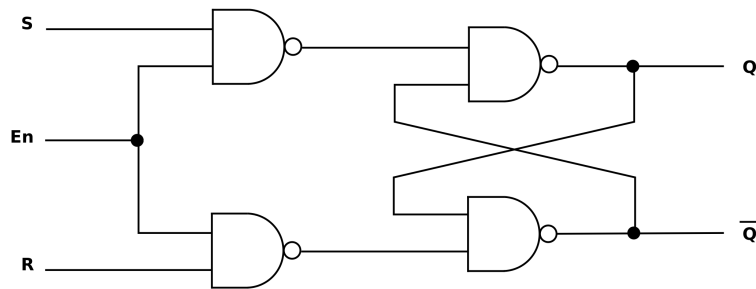

Figure 2: SR-latch Gate-level Schematic
Memory components come in many flavors but we will only study two types in this lab, namely latches and flip-flops. Latches can be combined to create flip-flops so we will begin by discussing latches. The simplest latch is the Set-Reset (SR) latch. The function table and gate-level schematic of an SR latch with an enable,  $En$ , are depicted in Table 1 and Figure 2, respectively. As you can see, the Set and Reset operations are expected to be mutually exclusive, meaning they cannot happen at the same time. However, when neither Set nor Reset is active, the value of  $Q$  (and consequently  $\bar{Q}$ ) remains the same. Hence, the value of  $Q$  is latched or stored. From the SR-latch, we can construct a D-latch, also known as a transparent
1. Simulate the operation of the SR-latch in Figure 2 using Verilog. The steps below will guide you through the process.